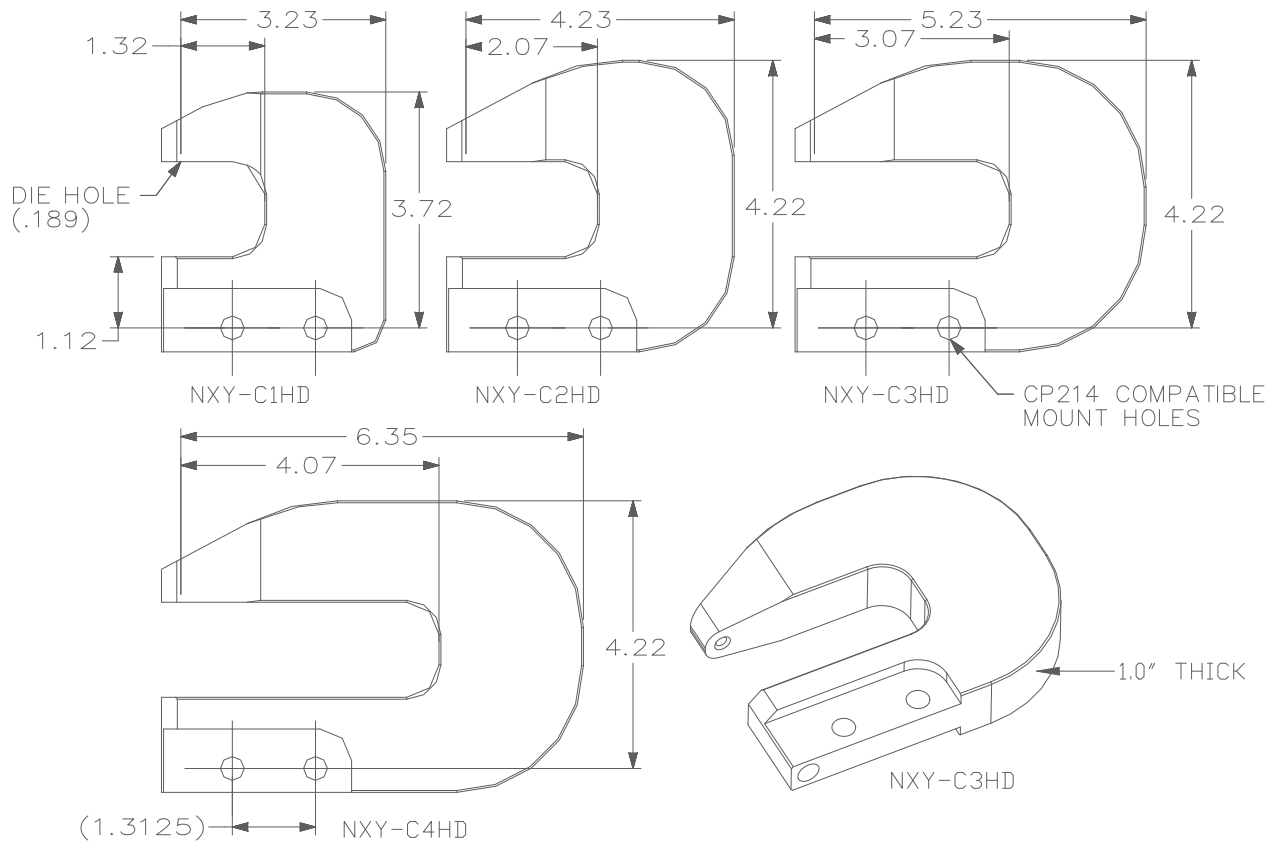

FIGURE 4 – HEAVY-DUTY YOKES
- 4.2 Refer to Figure 4 for heavy duty yokes, suitable for the NXC-6 and NXC-9 squeezers.